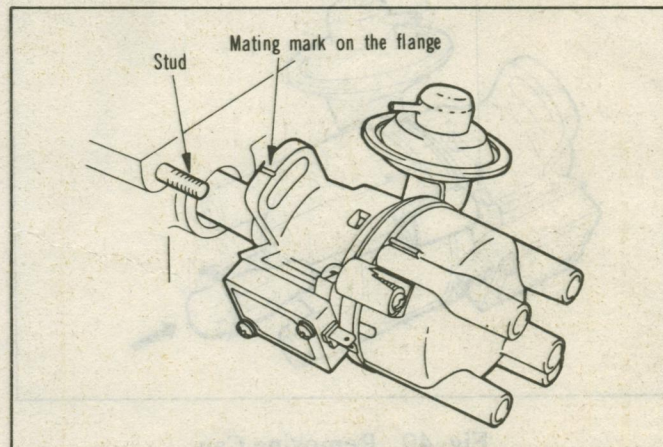

Fig. 44 Installing Distributor (2)
(3) Install the distributor on the cylinder head aligning the mating mark on the distributor-attaching-flange with the center of the distributor-installing-stud. Then tighten the nuts. (Fig. 44)